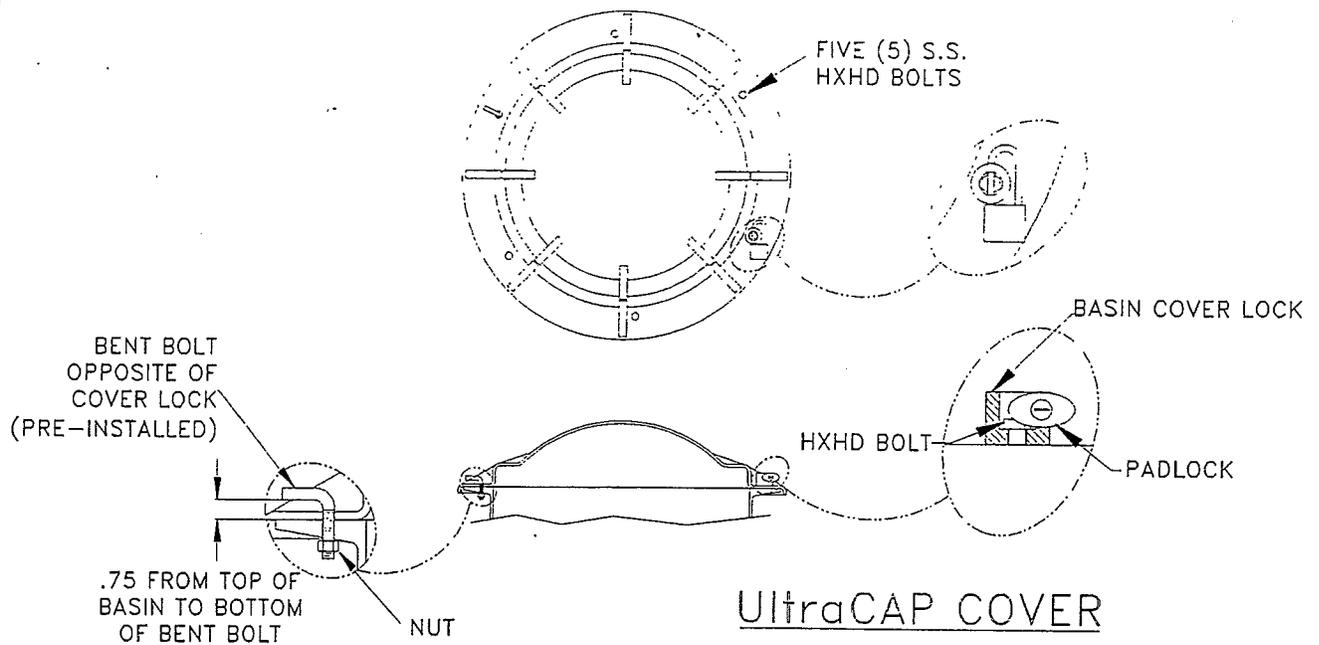

Fig. 18
- Install the lock as shown in Figure 18.